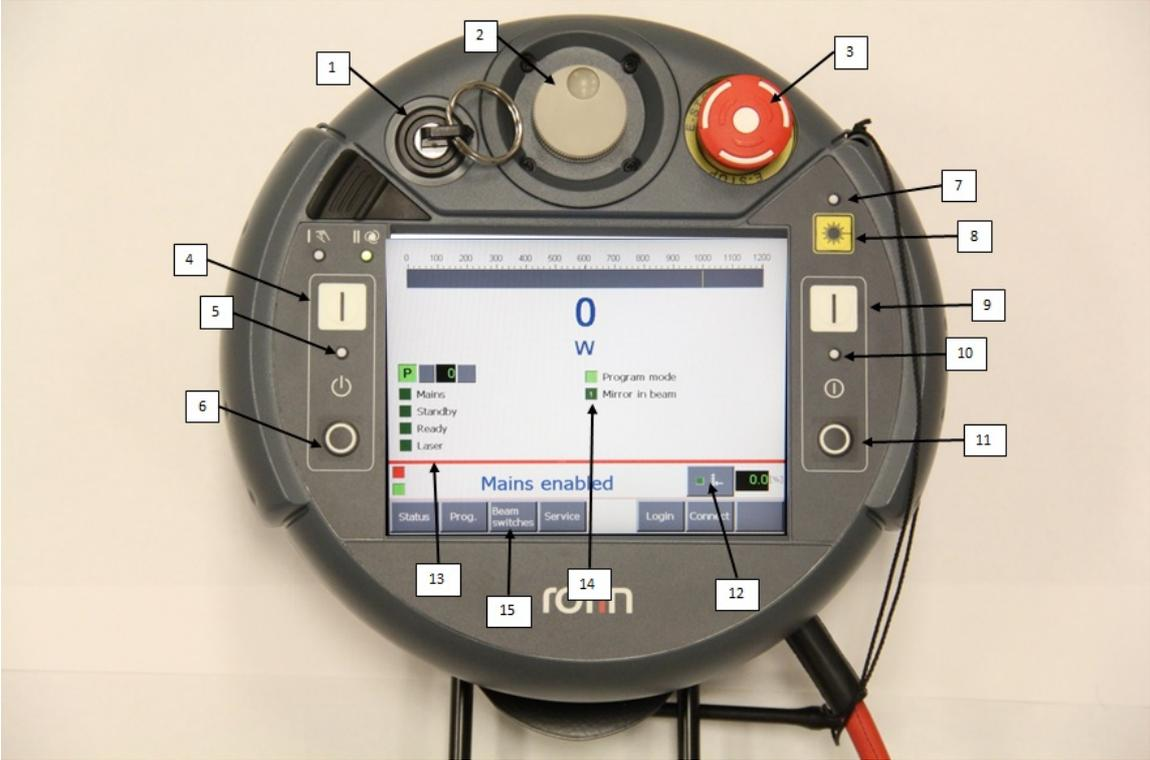

Figure 45: Pendent features for manual mode operation
This subsection covers how to fire the fiber laser in manual mode. This mode is primarily used by technicians, so the procedure here assumes proficient use of the Rofin system in its entirety and references many different sections in this manual. The source program mode must be in **Internal Programs**. Figure 45 outlines the pertinent features of the pendent needed for this procedure. Most steps refer to this figure.
1. (Figure 45 #1) Turn the laser source control key **clockwise** to put the source in manual mode.
2. (Figure 45 #4, #5, #13) When the pendent reads **mains enabled** press the **LASER MAINS ON** button. Both the mains indicator light and the source status indicator for Mains will turn **green**.
3. (Figure 45 #9, #10, #13) The screen will read **cooling start** for 30 seconds, then it will read **standby enabled**. Once this message is displayed, press the **LASER STANDBY ON** button. Both the standby indicator light and the source status indicator for Standby will turn **green** and the **red** status lights on top of the source and workstation turn on.
6. (Figure 45 #14, #15, Figure 46) Navigate to the **Beam Switches** page. If the door is closed and the pendent reads **Laser Enabled**, you can now aim the beam down the process fiber by selecting the **fiber select** button. The **HeNe** button switches on the red aiming laser. Whenever the door is opened, the fiber select button will need to be re-selected. On the Menu screen, the **Mirror In Beam** status light will turn green.
7. (Figure 45 #13) Using the up and down arrows on the **Menu** screen, select the program you wish to use.
8. (Figure 45 #2, #12) To use variable power, the program must have **Pulse Scaling** set to **L**. To enable variable power, select the **Variable Power Control** button on the menu screen. The power percentage readout next to the button will turn yellow showing it can be edited. Either use the dial to modify the power scale, or tap the readout and enter a power using the pop-up window. This is only enabled for a short time, so be sure to check it during operation.
9. (Figure 45 #7, #8) To fire the laser, press the **LASER ON** button. The indicator light will turn yellow. If the beam has not been aimed down the fiber, the laser will fire into the beam dump within the source. The **Fiber Select** button can be selected while the beam is firing.
10. (Figure 45 #7, #8) Press the **LASER ON** button again to stop firing the laser. The indicator light will turn off when beam is turned off.